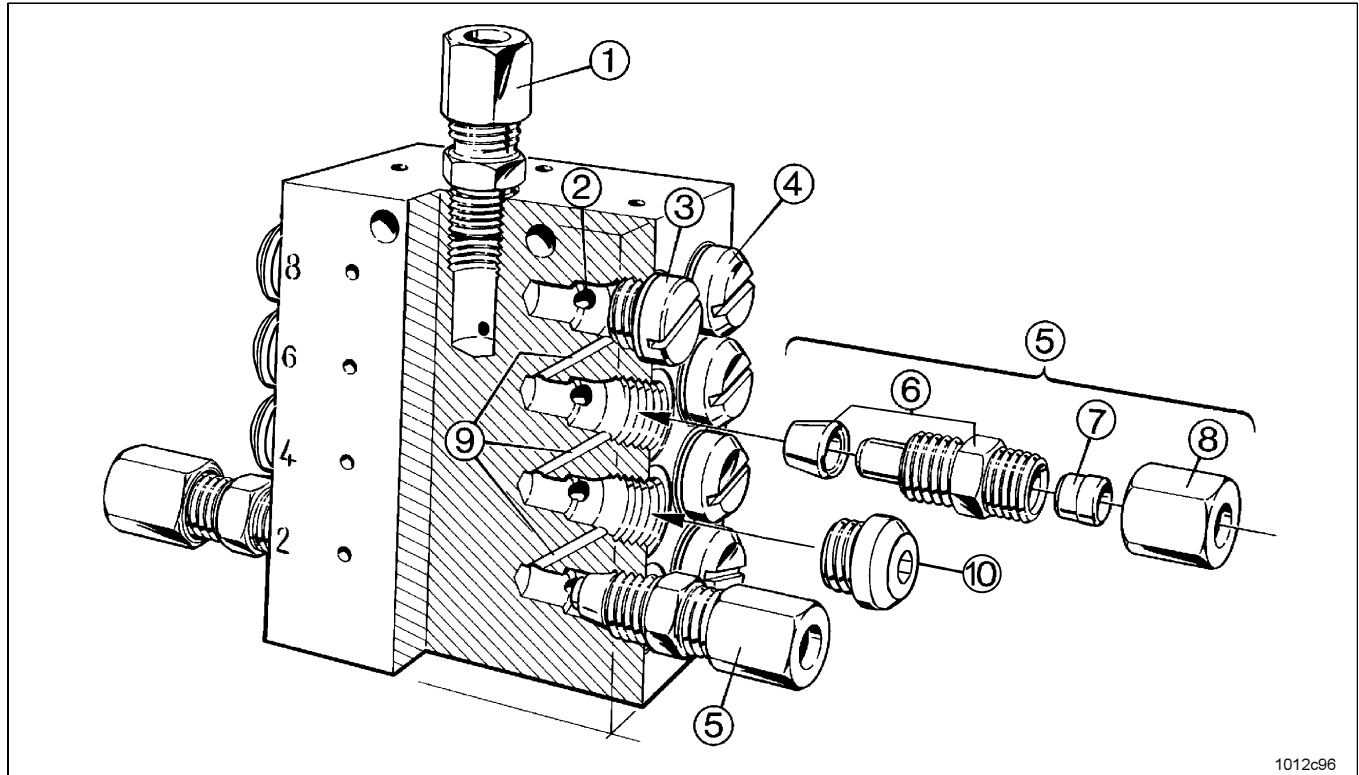

Fig. 26 Install the outlet fittings and closure plugs in accordance with the dosage
- Install an outlet fitting assembly 5 (M 10x1) in each outlet borehole which will be used. Refer to Fig. 26, 27, 28.
In the case of construction machines or agricultural machines use high-pressure hoses for the lubricant feed lines. In this case, secondary metering devices (see fig. 26) must also be equipped with check valves with reinforced collet (standard flange, see fig. 3).